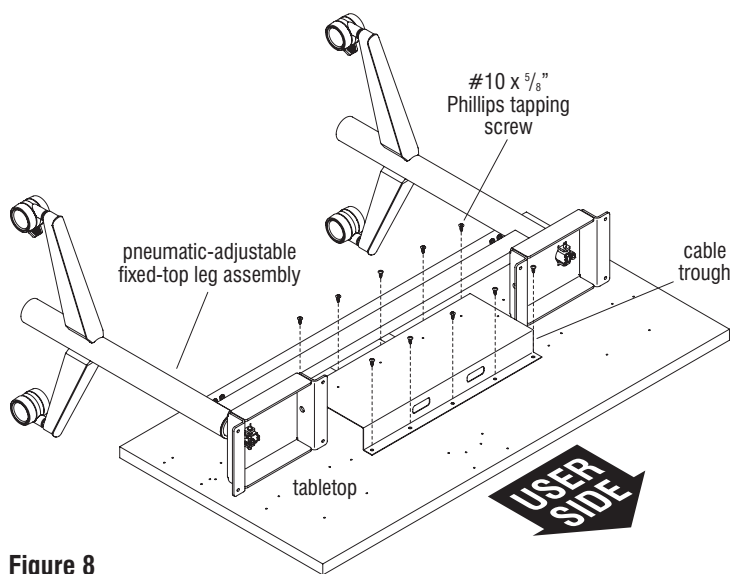

Figure 8
17. Secure the cable trough to the tabletop using ten #10 x 5/8" Phillips tapping screws. Do not over-tighten (Figure 8).